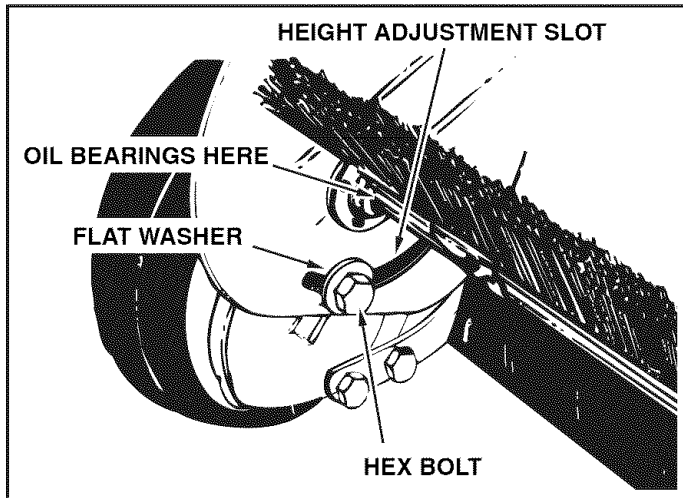

FIGURE 25
- Lubricate the brush shaft bearing twice a year with a few drops of light weight oil. See figure 25.